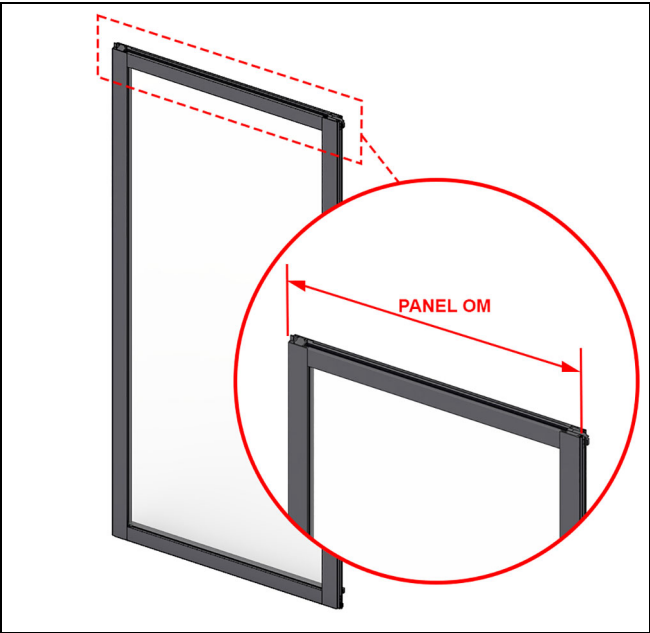
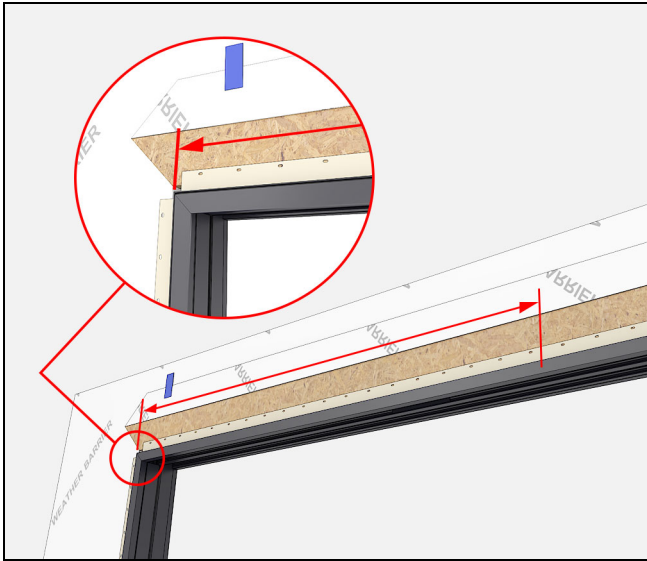
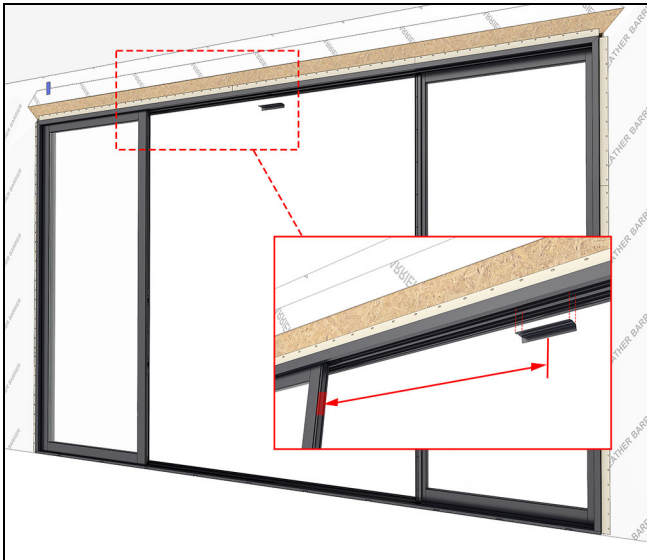

Figure 108
Figure 109 OOX shown
Figure 110 OOOX shown
1. Measure the (H) stationary panel OM. See Figure 108. Transfer that measurement to the exterior track of the head jamb and center the top stationary bracket at that distance. See Figure 109. On OOOX/XOOO, make a second mark from the first, using the same measurement. See Figure 110.